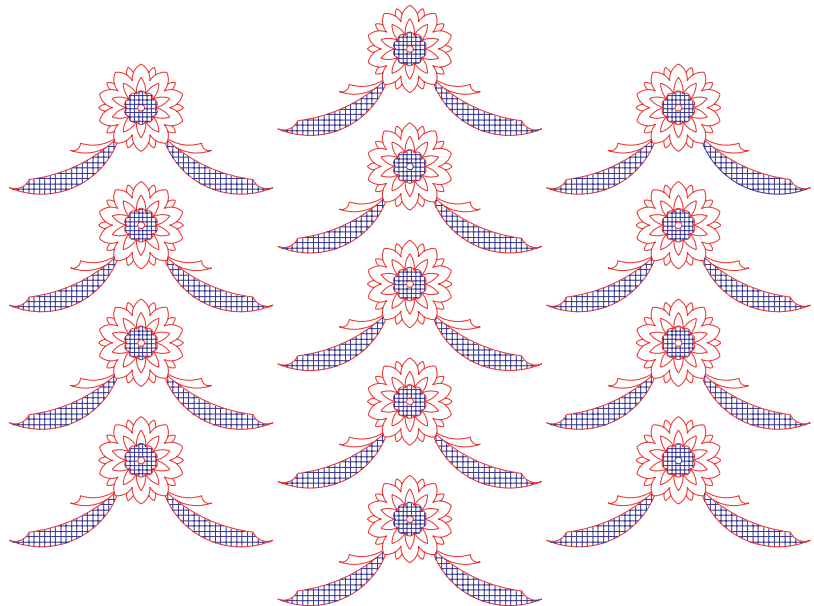

Fig. 10.21 Exercise 1 – original pattern
1. Fig. 10.21 shows a pattern formed by inserting an **external reference** and then copying or arraying the **external reference**.